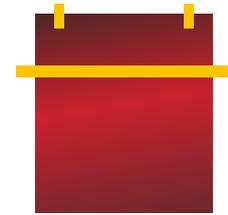

Figure02
- › Apply a strip of masking tape across the upper section of the graphic in order to create a horizontal hinge; preferably on a flat part of the surface. (FIG. 02)